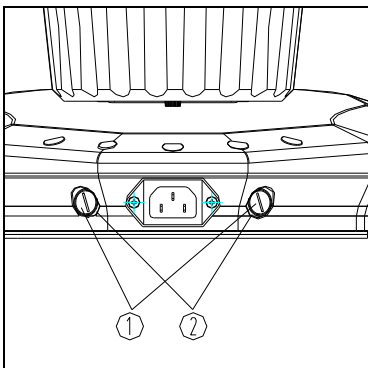

Figure 13
Please set the power switch at "O" before replace fuse. Use "-" screw driver to take off fuse ① from its base ② and change a new on, then screw in. (Fig. 13)